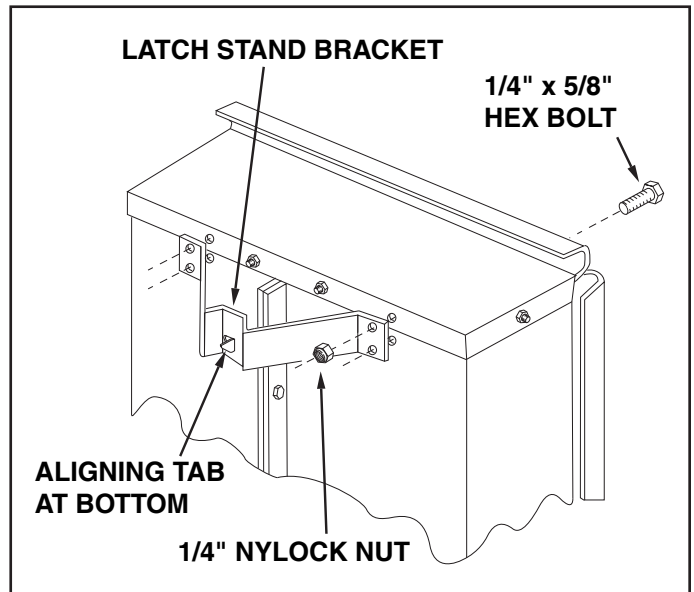

FIGURE 7
11. Turn the latch stand bracket so that the aligning tab is at the rear (bottom) of the bracket. Assemble the latch stand bracket to the cart using four 1/4" x 5/8" hex bolts and 1/4" nylock nuts. **TIGHTEN**. See figure 7.